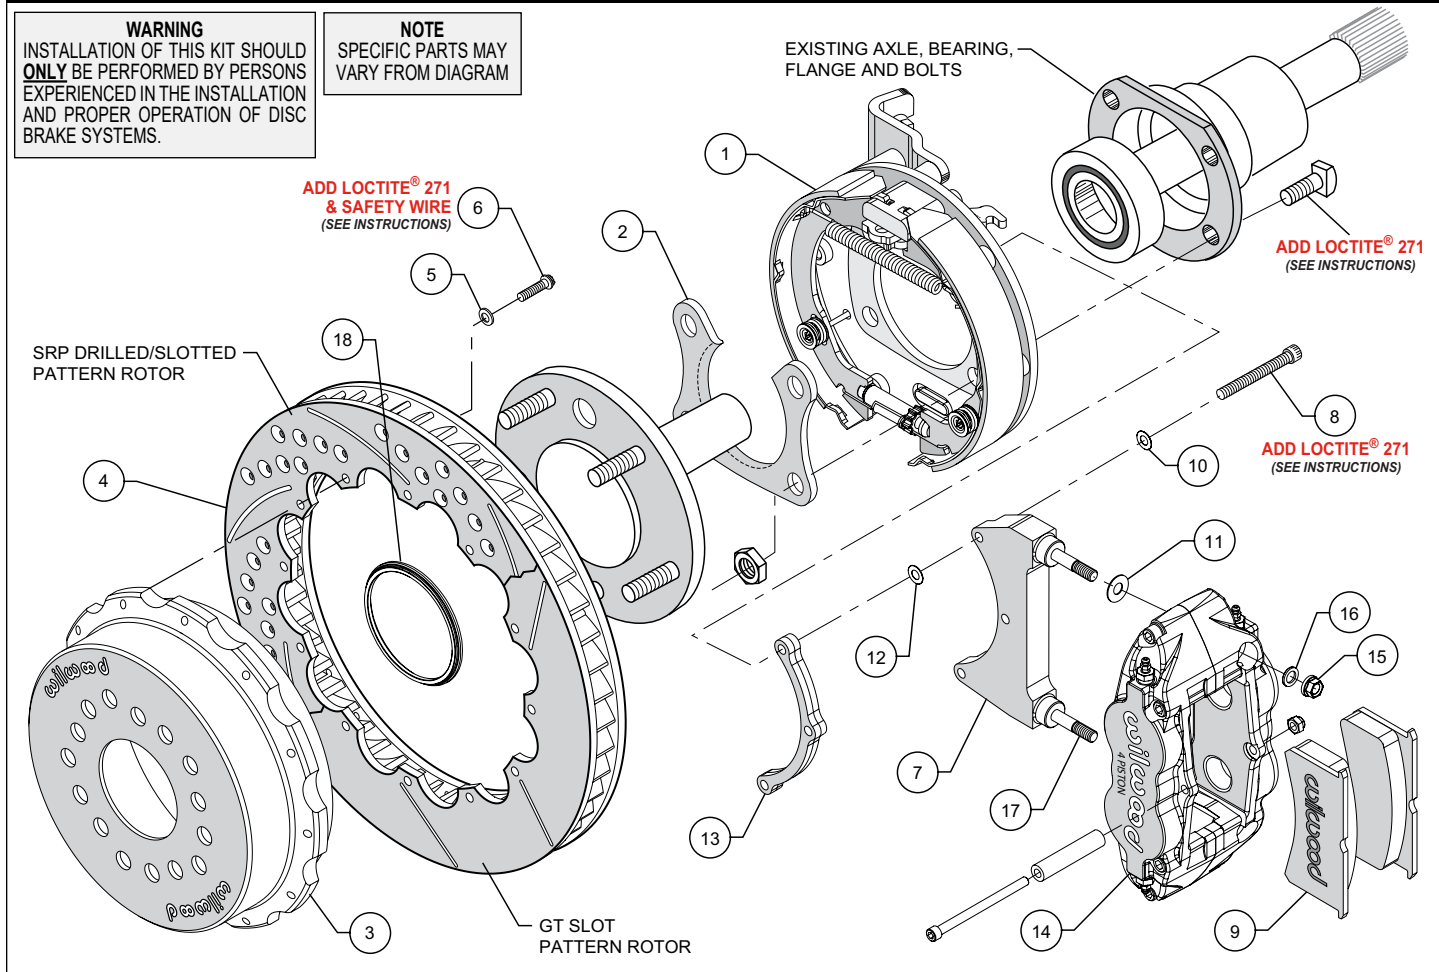

Figure 1. Typical Installation Configuration
**NOTE:** Numbers in parenthesis refer to the parts list and Figure 1 on the preceding pages.
- Slide the bracket kit assembly (1) onto the housing flange and then insert the axle assembly through the center hole of the bracket kit assembly (1). Align the bearing retainer (2), as shown in Figures 1 and 4, and secure using the stock Original Equipment Manufacturer (OEM) bolts and nuts. Stock OEM hex nuts that retain the bracket kit assembly (1) and retainer (2) should be on the wheel side of the bracket. Apply red *Loctite*® 271 to the stock OEM bolt threads and torque to OEM specifications. Make sure the bracket kit assembly (1) brake pads are FACING OUTWARD TOWARDS THE WHEEL.
- **NOTE:** Please reference the caution statement at the beginning of the assembly instructions. The caliper mounting bracket assembly (7) should be installed first with clean, dry threads on the mounting bolts (8). Install the bracket from the rear side of the bracket kit assembly (1) by sliding bolt (8) through flat washer (10), bracket (7), shim washer (12) and finally through the spacer (13), see Figure 1. **NOTE:** End of bolt should not exceed inside face of insert. The bracket must tighten squarely against the back side of the bracket kit assembly (1). Inspect for interference from casting irregularities, machining ridges, burrs, etc. Use one thin shim (12) between the bracket (7) and spacer (13) during initial trial fitting.